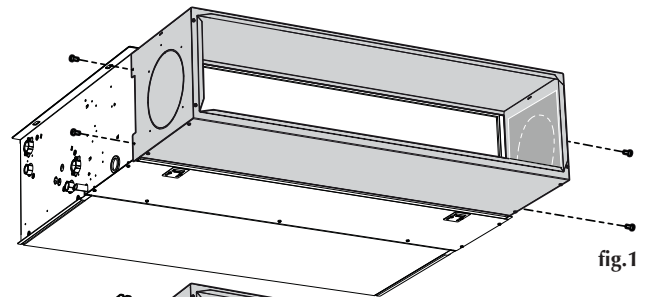

fig.1
- Fasten the RPA\_V accessory directly to the intake vent of the unit using the four self-threading screws supplied (fig.1)
- Use the four screws provided to fasten the RPA\_V accessory to the unit intake vent (fig.1)